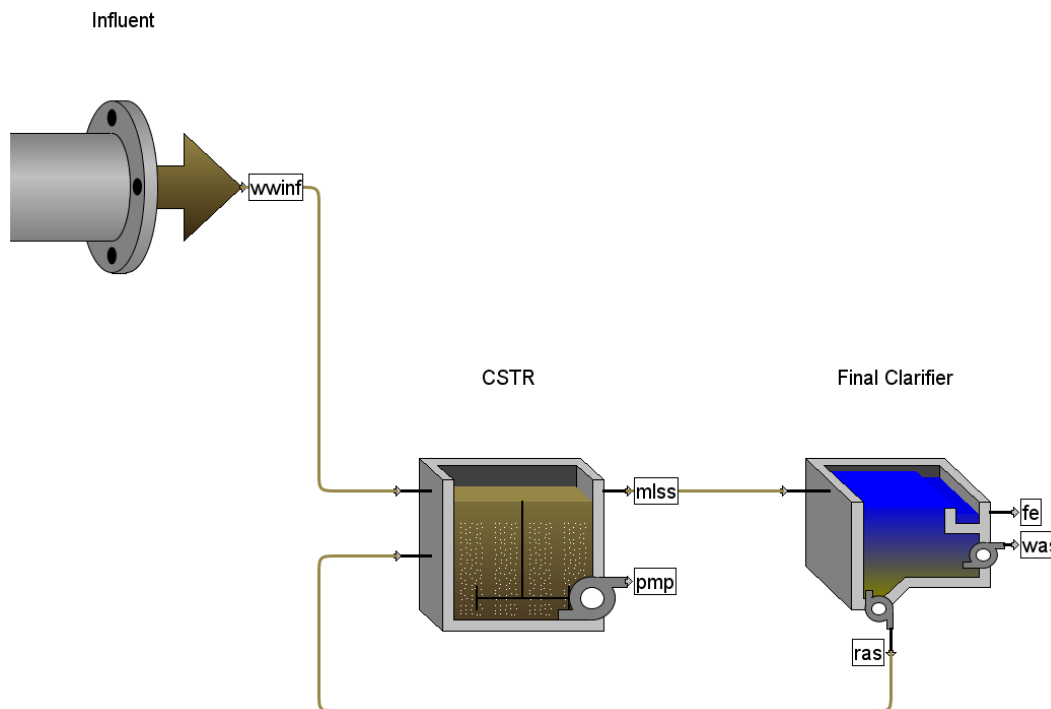

Figure 9-2 – Tutorial 9 Layout
3. Create the layout as shown in **Figure 9-2** with a *codstates* Wastewater influent model, *mantis2* Completely-Mixed Tank (CSTR) model and *simple1d* Rectangular Secondary Clarifier model. These should be the default model settings.